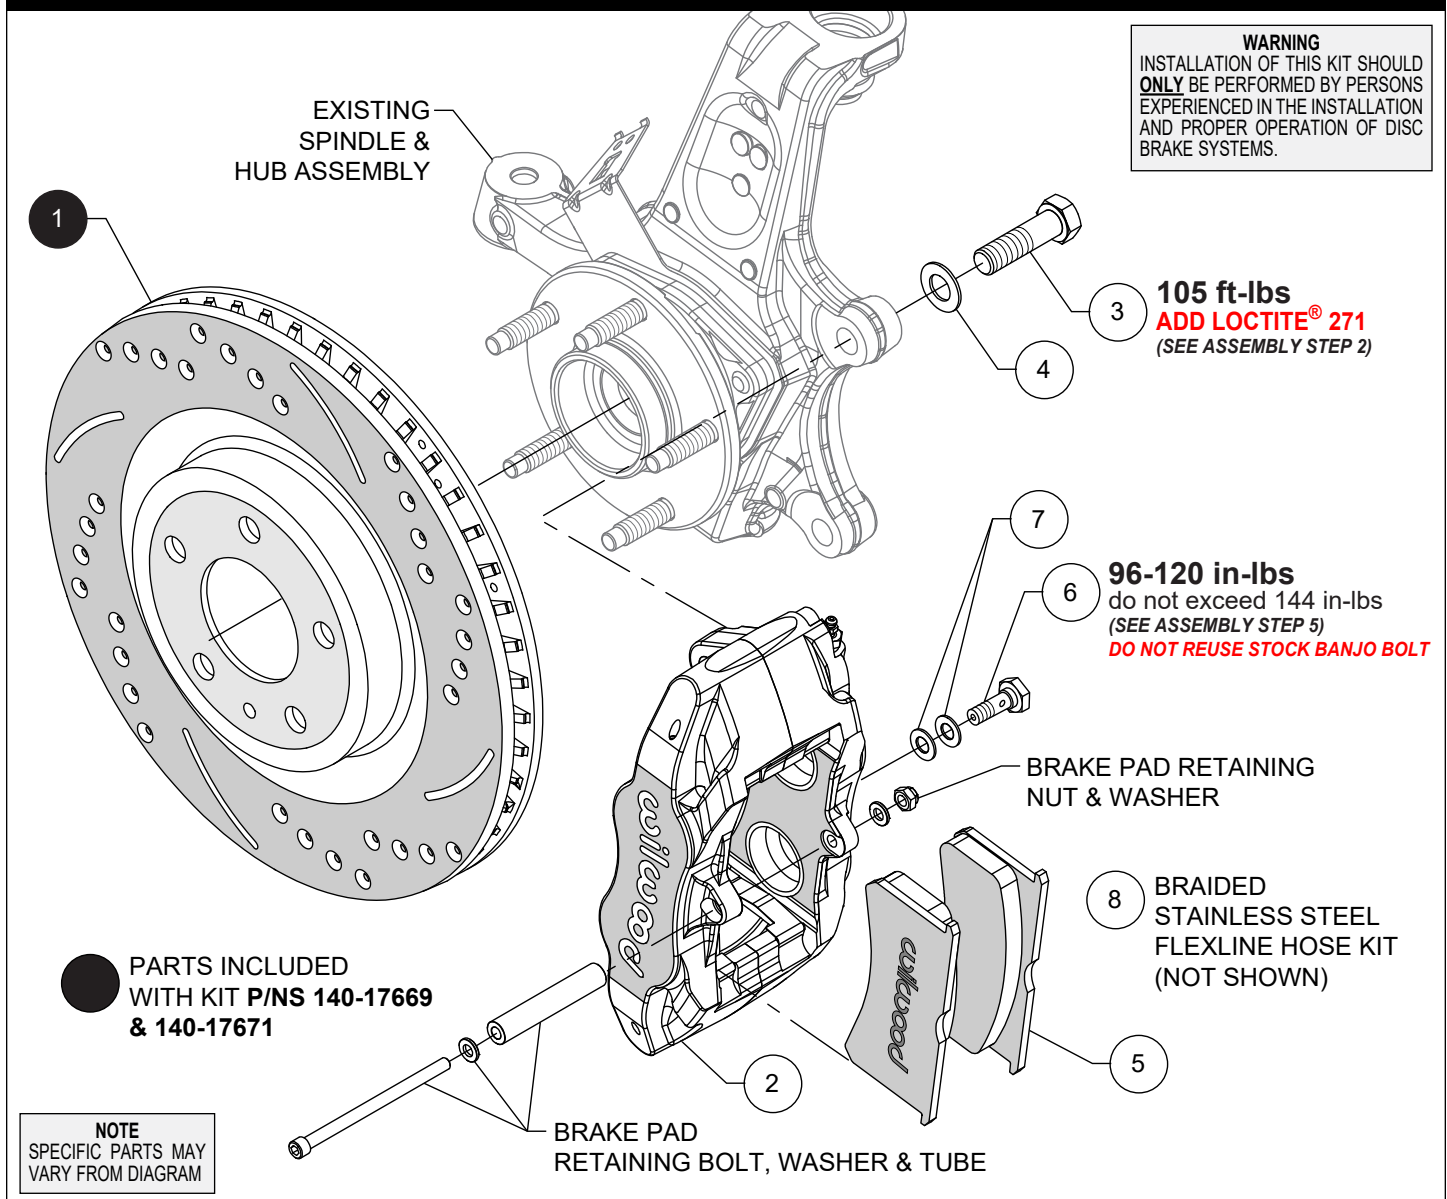

Figure 1. Typical Installation Configuration
NOTE: Numbers in parenthesis refer to the parts list and Figure 1 on the preceding pages.
STEP 2 Mount the caliper (2) onto the OEM caliper mounting bosses of upright using bolts (3) and washers (4), as shown in Figure 1. Apply red *Loctite*® 271 to bolt threads, and torque to value shown in Figure 1.
STEP 3 Remove the caliper pad retainer bolt, locknut, washers, and tube from the caliper. Insert the brake pads (5) into the caliper, with the friction material facing the rotor, Photo 2. Secure the brake pads in place with the pad retainer bolt, locknut, washers, and tube, Photo 3. The locknut should be snug without play in the bolt or tube. Be cautious not to over tighten.
STEP 5 Attach brake line to caliper. Install Wilwood's braided stainless steel flexline hose kit (8) that is included with this kit. See below for more info on flexline kits.
Route new flexline following OEM brake hose routing and connect to OEM hardline. Secure to OEM chassis brake bracket using supplied retainer clip. Connect to caliper using banjo bolt (6) and crush washers (7), Figure 1. Do not use lubricant or thread sealant on banjo bolt. Torque to minimum value shown in Figure 1. Check for leakage, increasing torque only to stop leakage without exceeding maximum specification. Replace crush washers and banjo bolt whenever reassembly is required. **Ensure hoses are routed to prevent contact with moving suspension, brake or wheel components.**